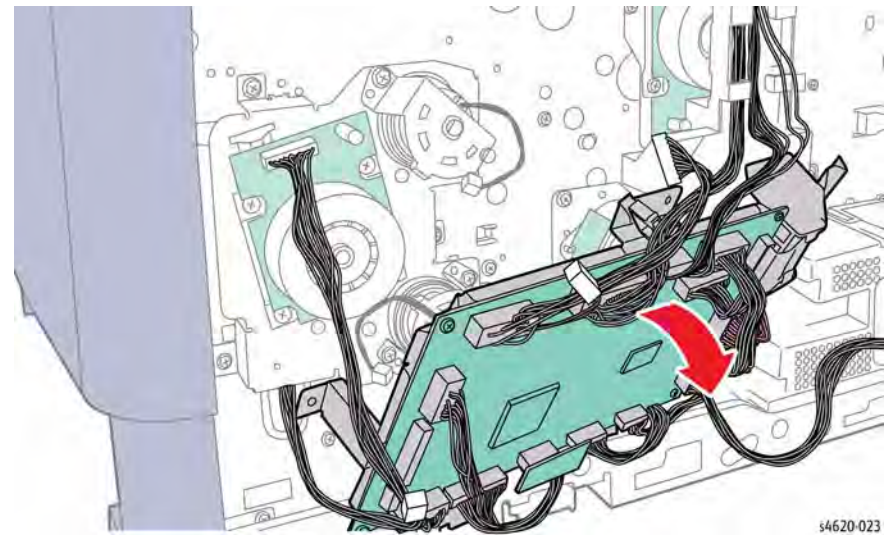

Figure 3 Position the MCU Board bracket to access the center harness guide
11. Raise the MCU Board bracket to release the tabs from the chassis and move the board away from the center harness guide, Figure 3.